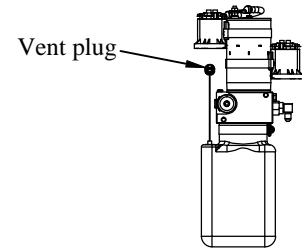

Figure 9: Vent plug.
7. **Remove** the vent plug from the pump reservoir (Figure 9).